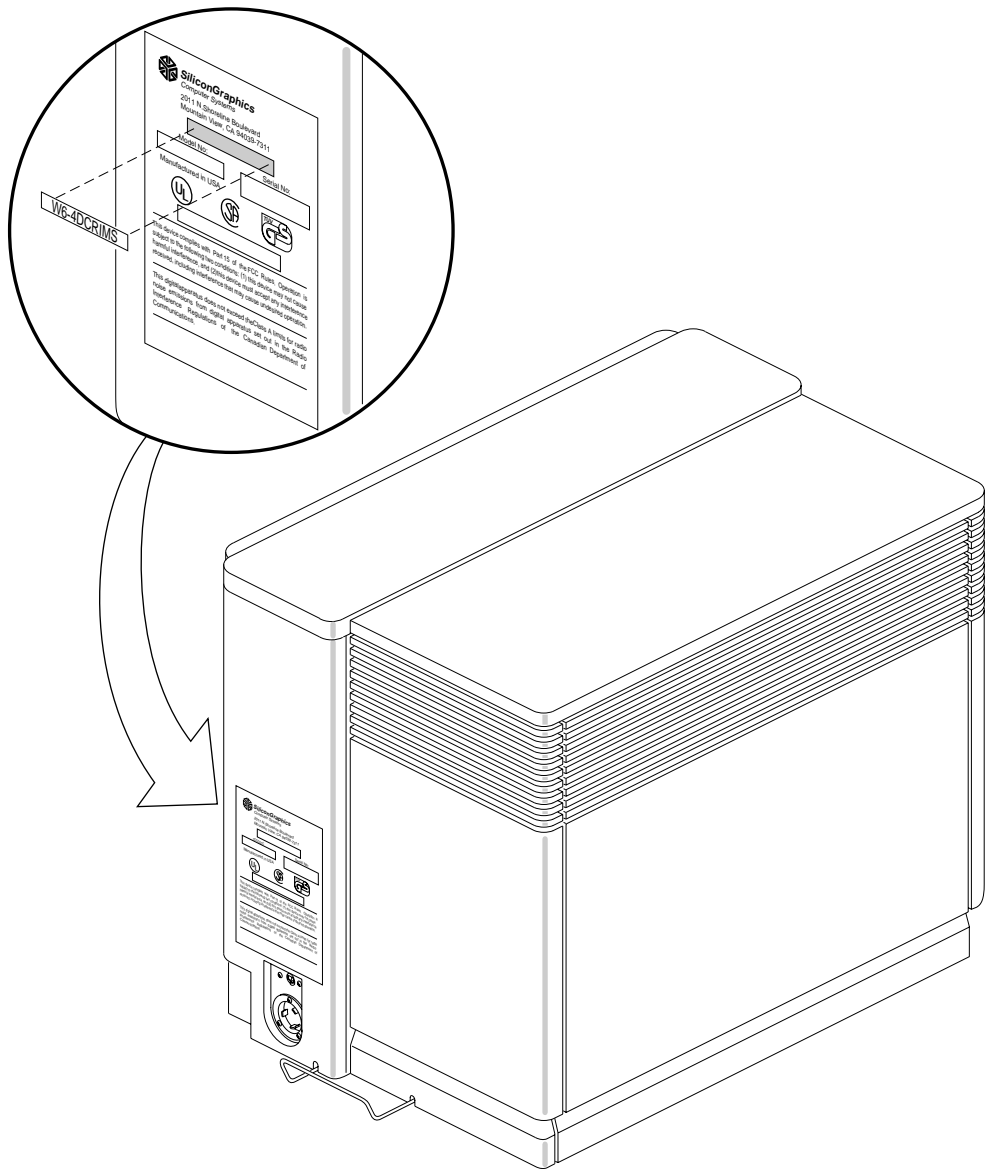

Figure 3-23 Installing New System Labels
3. Install the new system labels on the back of the cabinet, as shown in Figure 3-23.